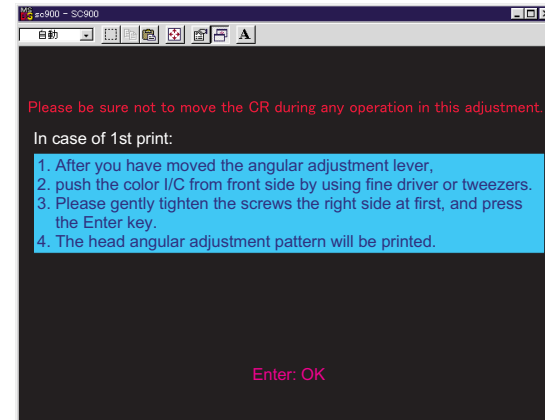

Figure 5-23. Screen after “Head Angular Adjustment” is Selected
15. Press the Enter key in the screen (Figure 5-23).